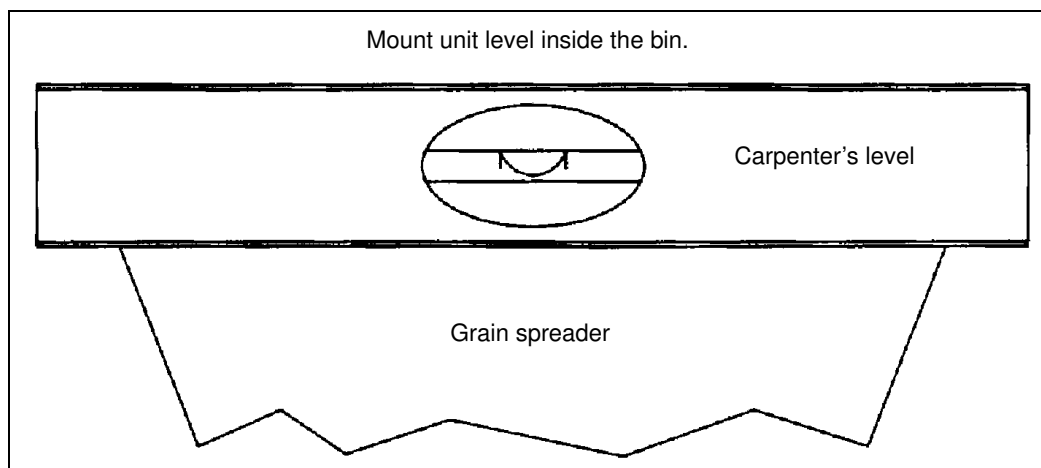

Figure 4D
4. Once unit is installed, use a carpenter's level across the top of the spreader cone to make sure it is level in all directions. *(See Figure 4D.)*